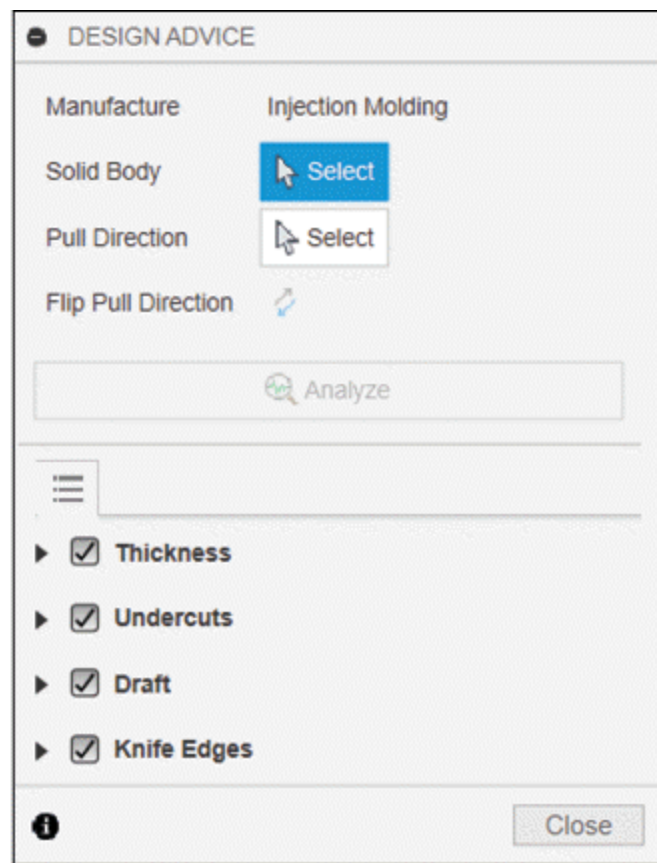

Figure-74. DESIGN ADVICE dialog box
- Open part for which you want to check plastic injection molding recommendations and click on the **Design Advice** tool from the **INSPECT** drop-down of **PLASTIC** tab in the **Toolbar**. The **DESIGN ADVICE** dialog box will be displayed; refer to Figure-74.